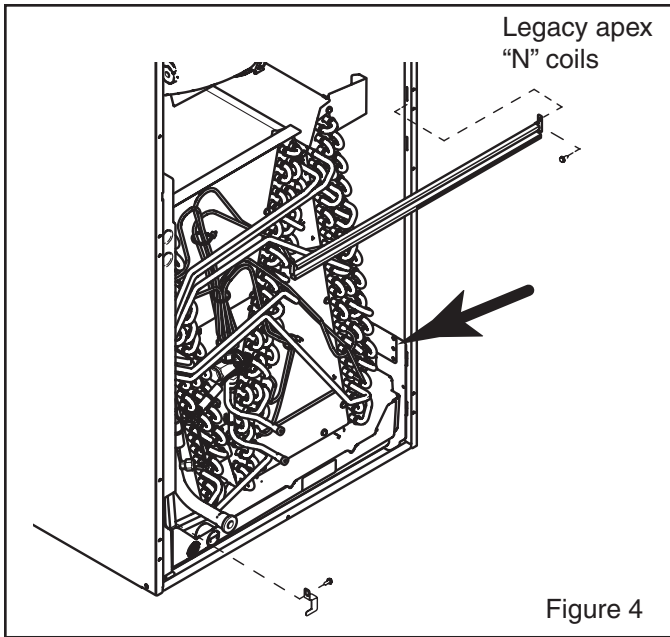

Figure 4
3. On the "N" coil only, remove the shipping bracket if present. See Figure 4.
2. On the "N" coil only, remove the shipping bracket if present. See Figure 4.